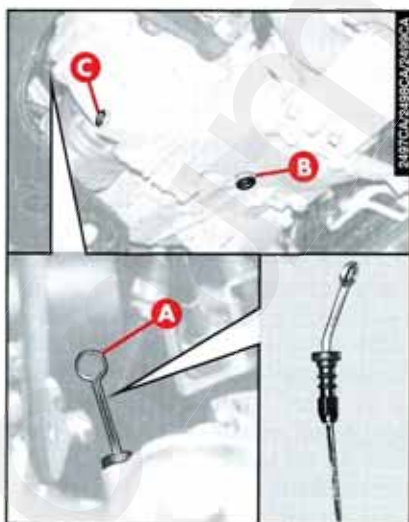

fig. 14 - 1.9 JTD version
- Clean the drainage cap (B) and screw it back into place.
- Top up through hole (A) with the correct type of oil in the specified quantity (see table of "Recommended fluids and lubricants" in the chapter "Technical specifications").
1.9 JTD version (fig. 14)